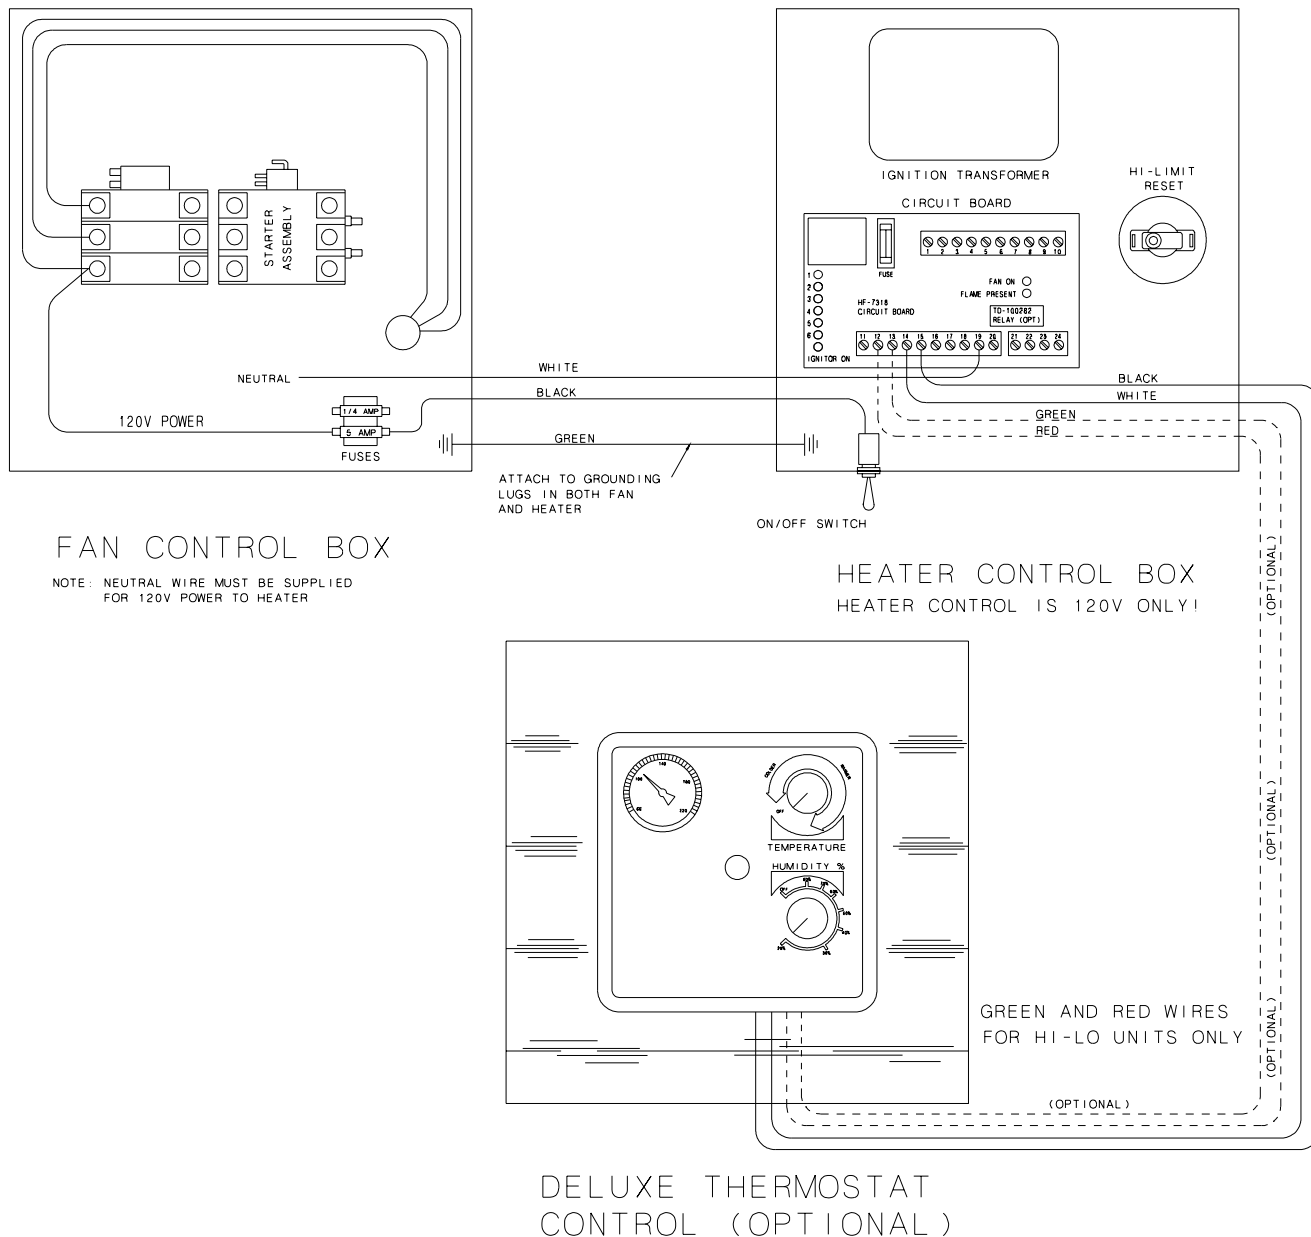

Figure 1: 230 volt fan control box.
2. Make field connections of wires in fan box as shown in Figure 1.
3. Connect deluxe thermostat control ( optional) in heater box as shown in Figure 1.